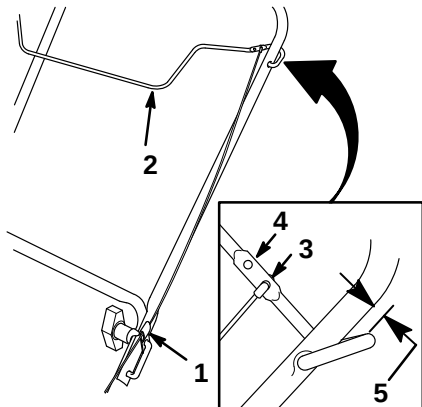

Figure 12
1. Hook the upper end of the control cable in the bottom hole in the control bar bracket (Refer to the inset in Fig. 12).